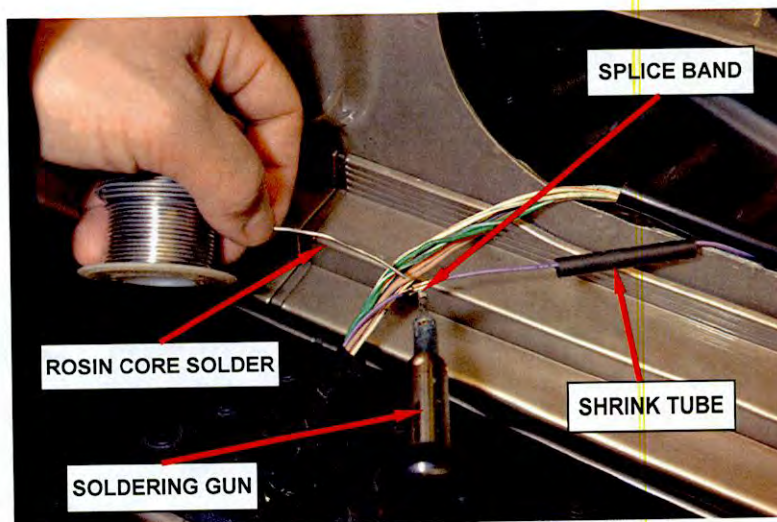

Figure 17 – Soldering the Wiring Connection
15. Using rosin core solder and a soldering gun, solder the wiring connection at the splice band (Figure 17).